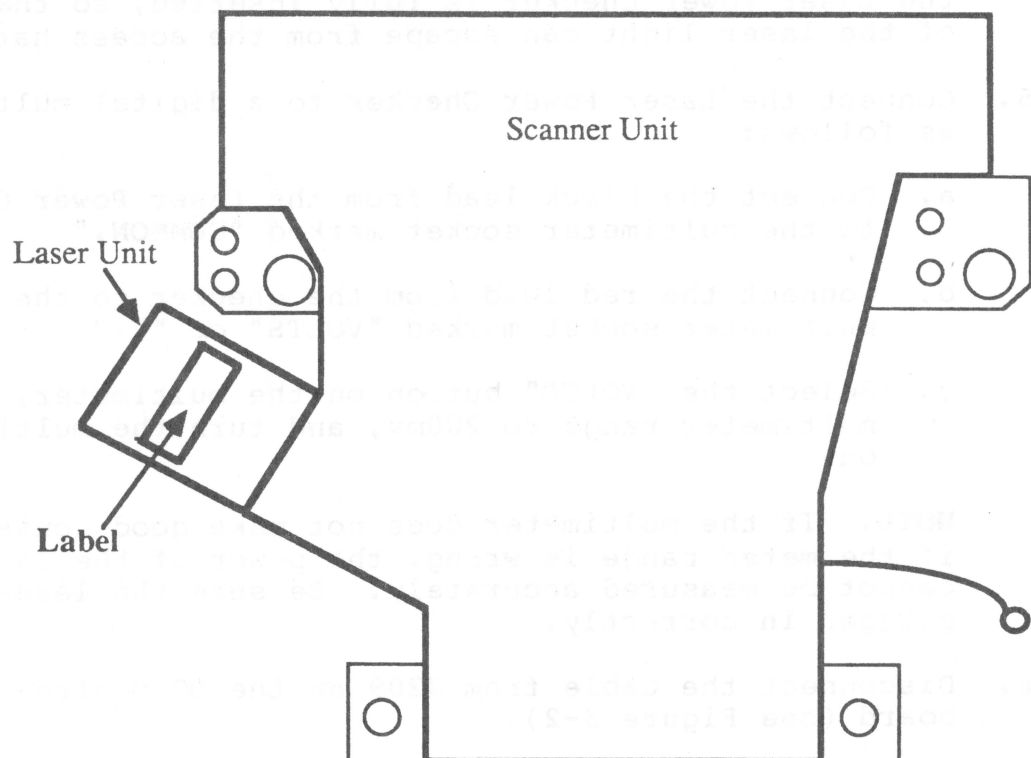

Figure 3-3
12. Compare the averaged reading to the reading shown on the laser label (see Figure 3-3).